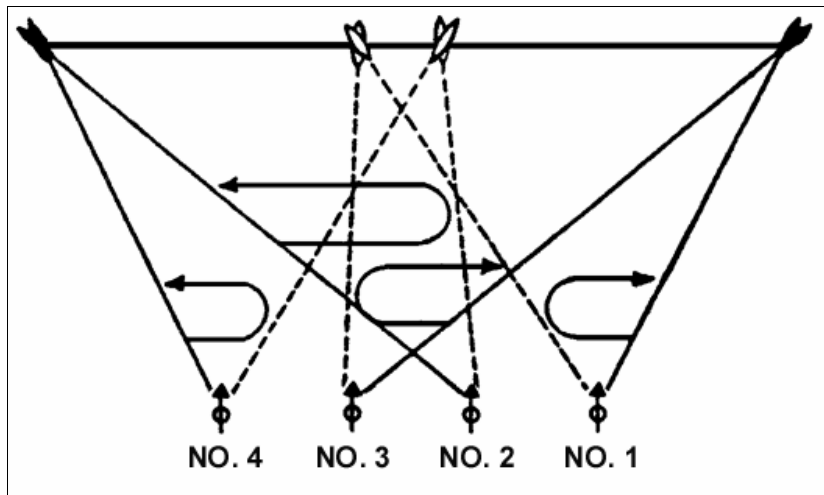

Figure 5-13. Four MK 19s, target 100 to 200 mils in width.
- Each pair of MK 19s engages the whole target (Figure 5-13).